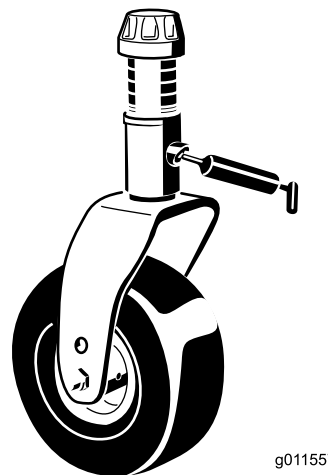

Figure 62
- 2 caster-fork-shaft bushings (Figure 62)